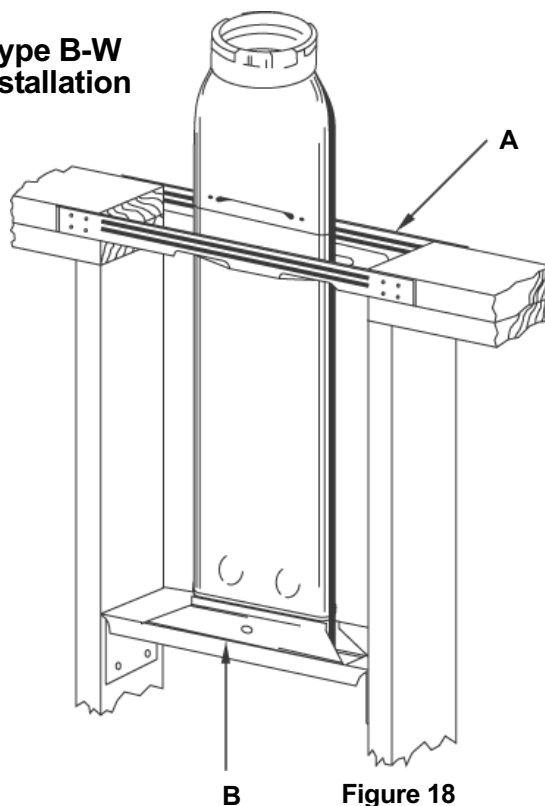

Figure 18
- The installation must contain an Oval Hold-Down Plate (4OHD) at the base, Oval Plate Spacers (4OPS) at the first ceiling level, and Firestop Spacers (4OPS) at any additional floor levels. See **Figures 18** and **19**.
- Nail one AmeriVent Plate Spacer (40PS), (A), across cut-out area in ceiling plate. See **Figure 18**. Plate Spacer (4OPS) is required at the first ceiling level above a wall furnace to center and space vent properly and to provide the required opening between floors.
- Snap Hold-Down Plate (4OHD), (B), onto bottom end of AmeriVent pipe as shown in **Figure 18**. Install Vent Section in position. Use two No. 8 binder head sheet metal screws to attach Hold-Down Plate firmly to Furnace header plate through pre-punched holes.
- Nail second AmeriVent Plate Spacer across cutout ceiling plate as shown in **Figure 18**. Firestop Spacers (OFS) must be used at subsequent levels.